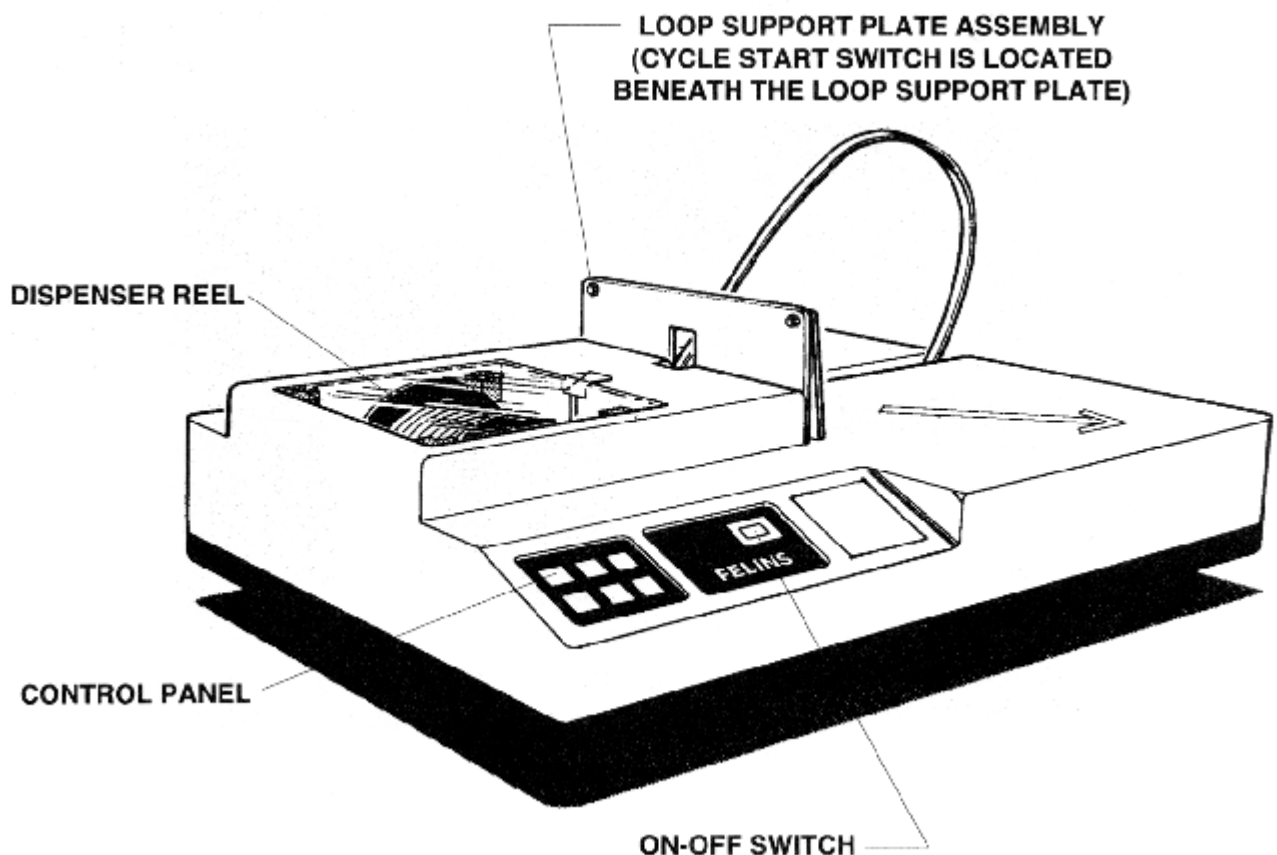

Figure 1 - Major Components, Exterior
8. **CYCLE START SWITCH.** See Figure 1. The cycle start switch arm is located at the extreme left hand end of the strapping platform, beneath the loop support plate. When pressed, this switch arm initiates the tension, weld, and cut-off portion of the strapping cycle. When released, the loop generation portion of the cycle occurs.